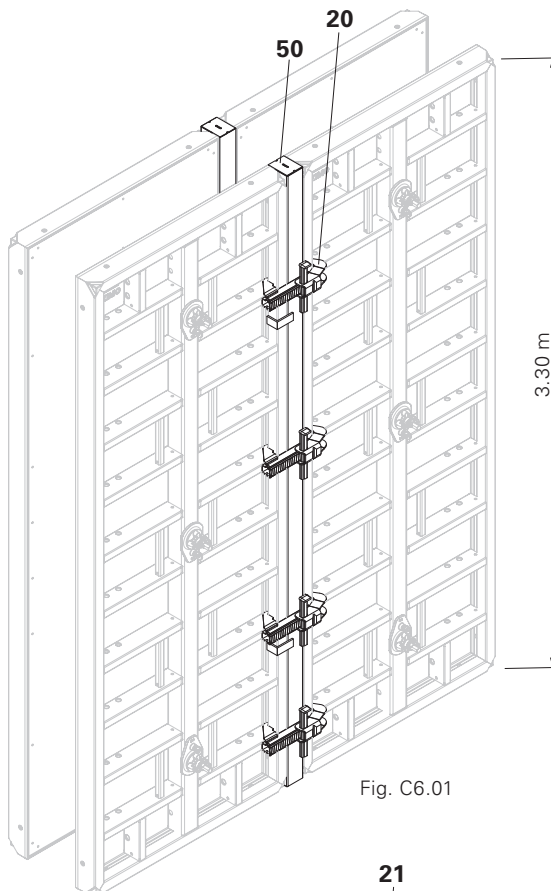

Fig. C6.01
The length is compensated with Wall Thickness Compensator MX or using timber which has been cut to size (50). Note: number and arrangement of the BFD Alignment Couplers (20). (Fig. C6.01)